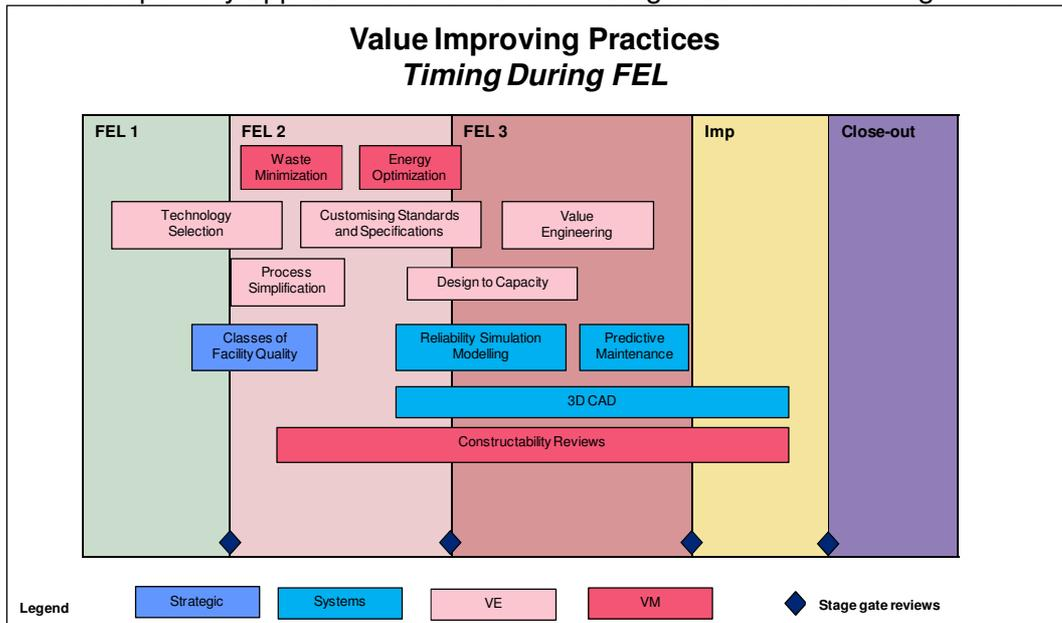

Figure 1 – Staged Application of VIP Processes
- VIPs are optimally applied in the relevant FEL stages as reflected in Fig 1 below.